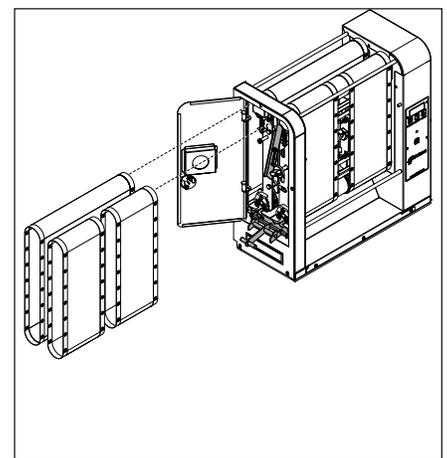

Figure 12. Belt Wraps
8. Carefully remove the belts from the toaster (Figure 12).
3. Slide the belts gently over the appropriate top and bottom roller. Make sure the belt lines up properly on the rollers. The snaps on the belts should face the inside of the roller (Figure 12).